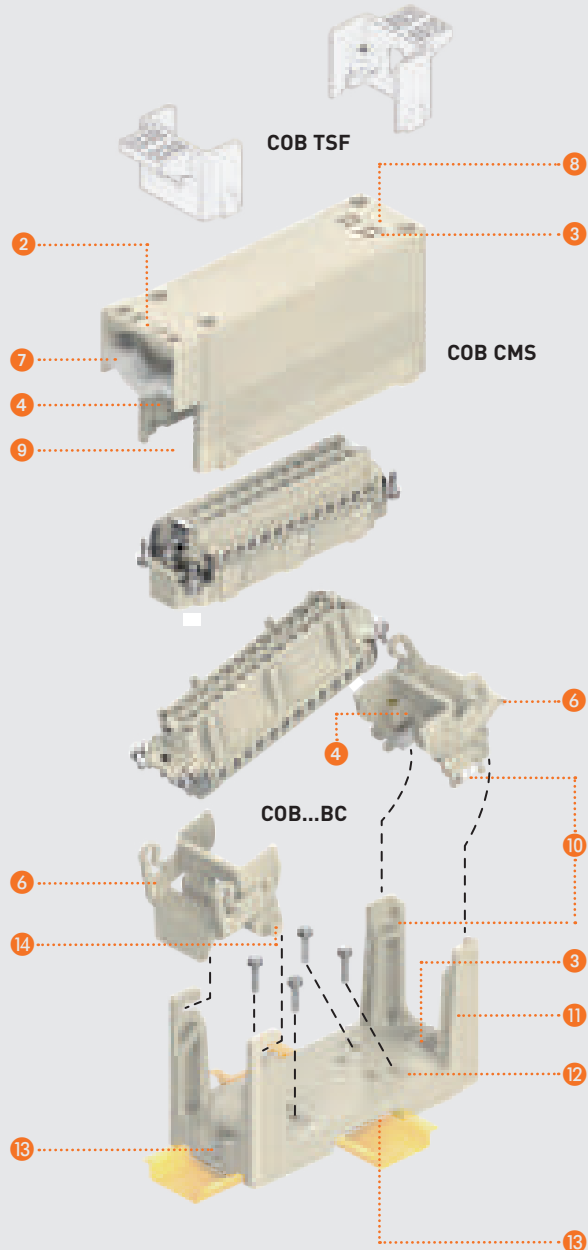

Figure 2
- > **On DIN EN 60715 rails**, both lengthways and crossways to the support (**Figure 2**).
- > **On fixed panels** using screws (**Figure 2**).